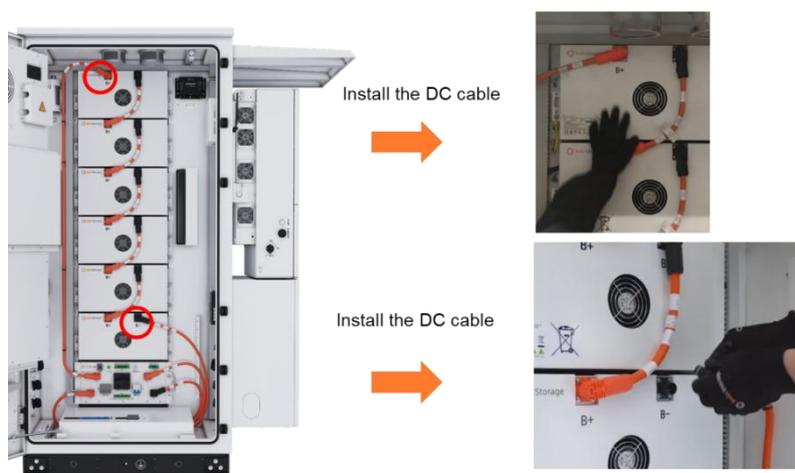

Figure 7-36 Diagram of Power Cables in the Battery Compartment
2. Install the DC power line according to the color and refer to Figure 7-36. When connecting the wire harness, do not pull the wire harness forcefully.